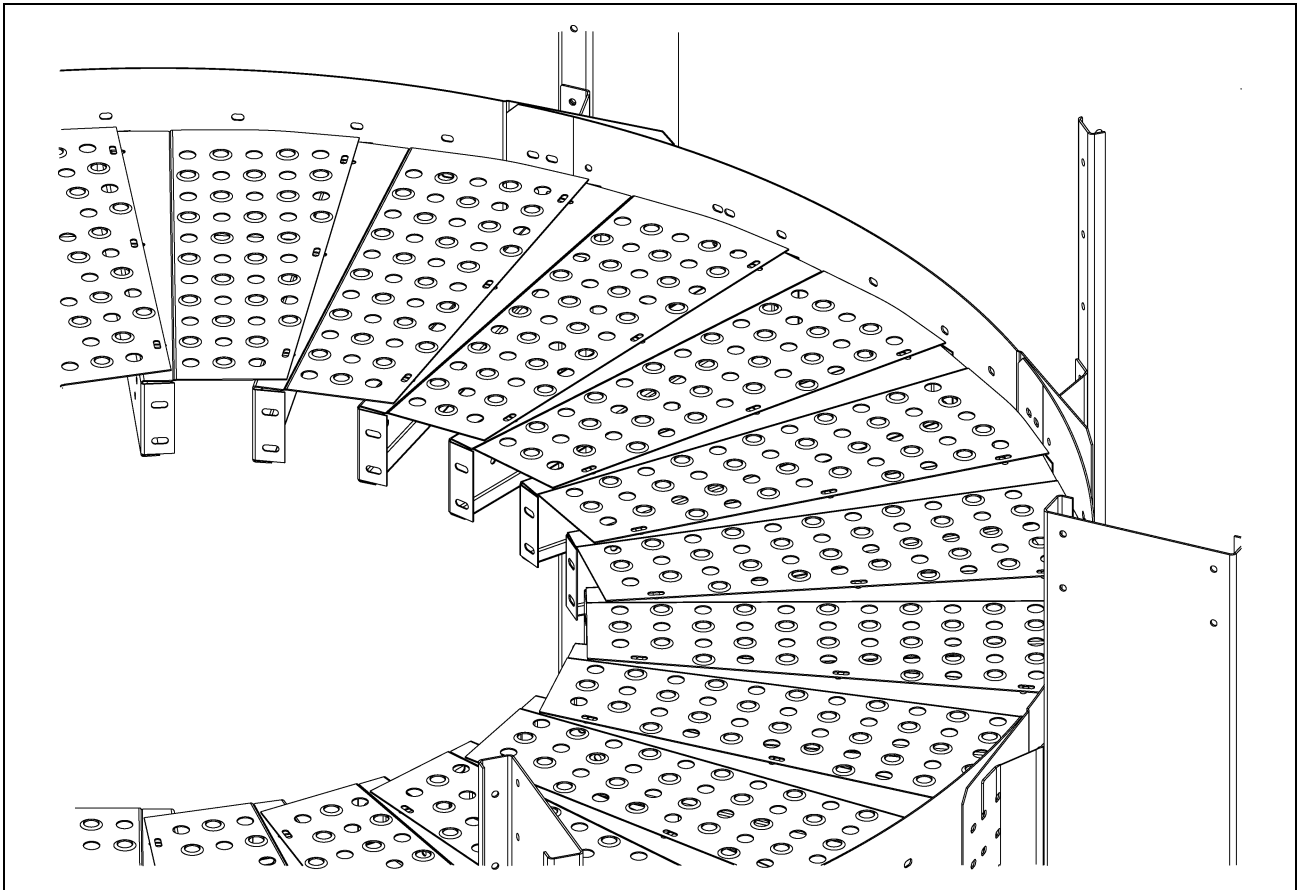

Figure 5G
2. Install all the planks (GT1-2060) continuously around the dryer. (See Figure 5G.)